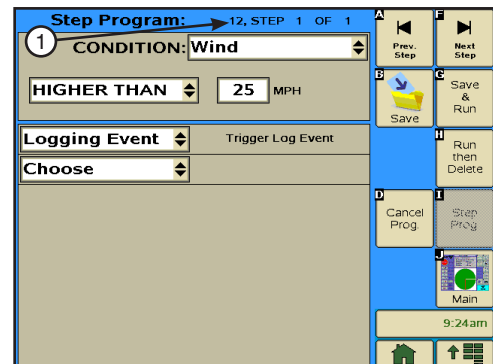

Figure 148-2 1. Step Program Identifier
5. To program using the wind condition to initiate a logging event, do the following. Refer to Figure 148-2.